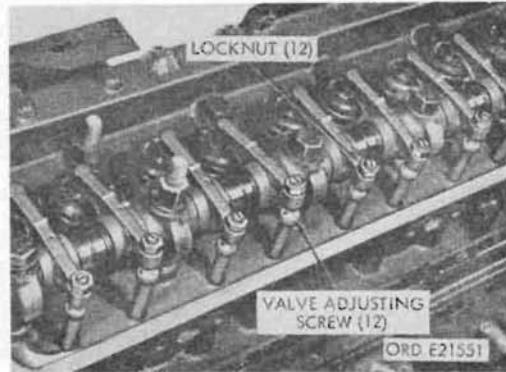

Figure 83. Valve adjusting screws
40. Valve Adjusting Screw (Fig. 83)